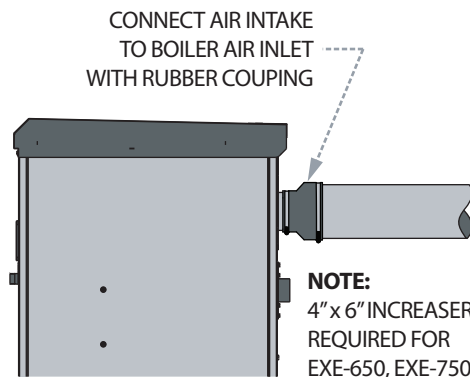

FIGURE 12 - CONNECTING TO BOILER AIR INLET
- An adapter (not supplied with boiler) may be required to connect the boiler air inlet to the combustion air ducting/piping. See **Figure 12**.